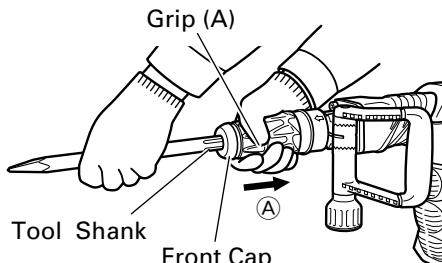
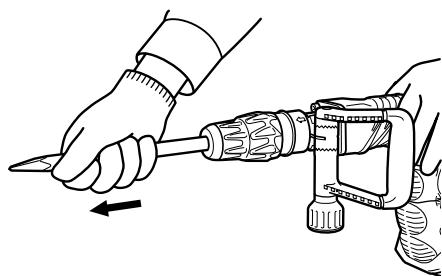

Fig. 2
Fig. 3
- (1) Clean the shank portion of the tool.
- (2) As shown in Fig. 2, pull grip (A) in the direction of Ⓐ, and insert the tool into a hole of the front cap.
- (3) Adjust the groove position while turning the tool, and furthermore insert it until it hits the end of the hole.
- (4) Return grip (A) to its original position, pull the tool to make sure it is locked completely. (Fig. 3)
As shown in Fig. 2, pull grip (A), and pull out the tool.